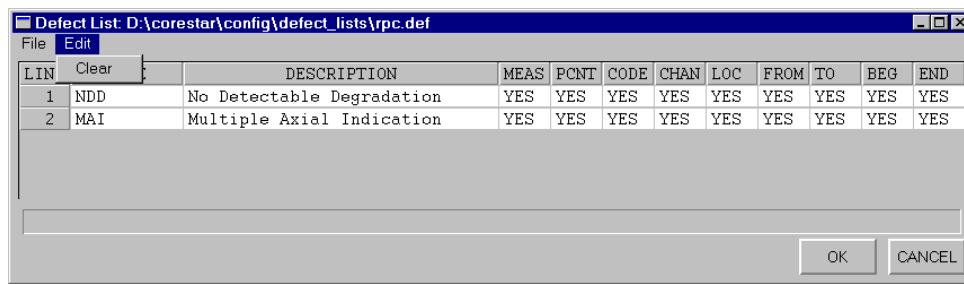

Figure 3-11. Edit Menu on the Defect List Dialog
The **Edit** menu on the **Defect List** window has one (1) items as shown in Figure 3-11.